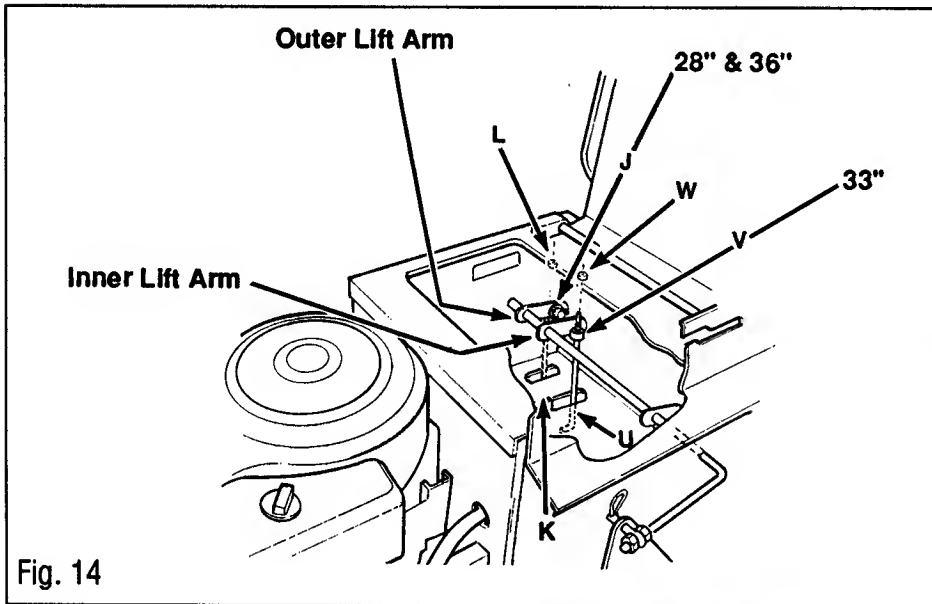

Fig. 14
1. If swivel (J, Fig. 14) is not attached to OUTER lift arm, remove hair pin and washer. Attach swivel to the OUTER lift arm. Swivel loop should face to the outside (left), over the OUTER slot. Place
1. If swivel (V, Fig. 14) is not attached to INNER lift arm, remove hair pin and washer. Attach swivel to the INNER lift arm. Swivel loop should face to the inside (right), over the INNER slot. Place washer and attach hair pin. Hair pin should be on the outside (left) of lift arm.
2. Slide link (U) upward, through the INNER slot on the frame. Slide link through swivel (V). Thread nut (W) onto link. The position of nut will determine the height of the mower when set in transport positions. See instructions in the *DECK ADJUSTMENTS* on page 14.